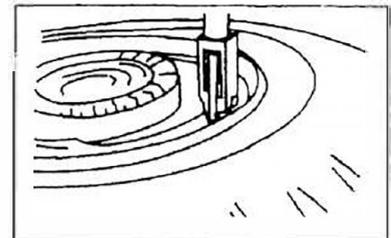

Figure 2
1. Place the bead breaker into the continuous pry bar pocket, with hooks under the lip of the bead seat hand. (See Fig. 2.)
3. Adjust the ram adjusting screw so that bead breaker is perpendicular (90°) to the wheel. (See Fig. 2.)